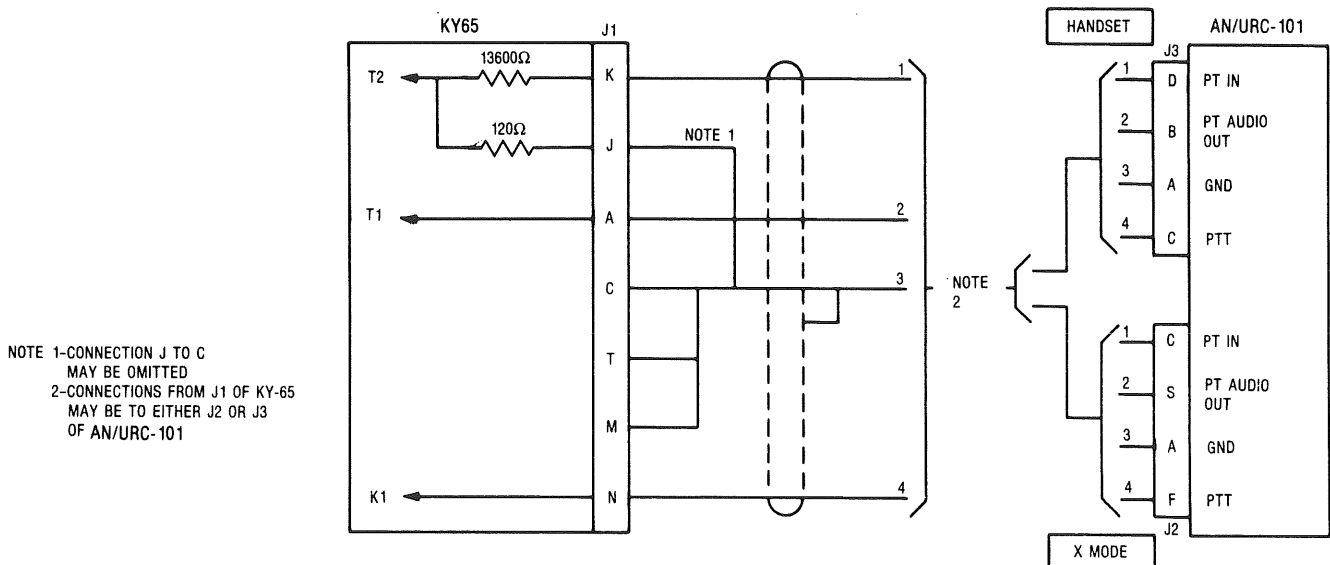

Figure 2-5. KY-65 Interconnect
- Connect the KY-65 and PET as shown in Figure 2-5.